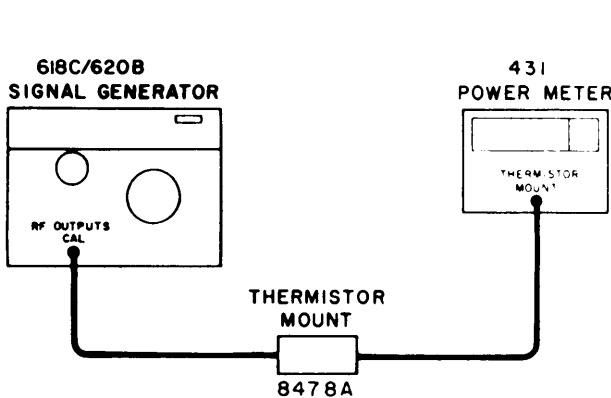

Figure 5-1. Setup for Testing RF Output Accuracy.
a. Connect Signal Generator in test setup shown in Figure 5-1.
a. Connect Signal Generator in test setup shown in Figure 5-1 but connect Thermistor Mount input to RF OUTPUTS UNCAL connector.